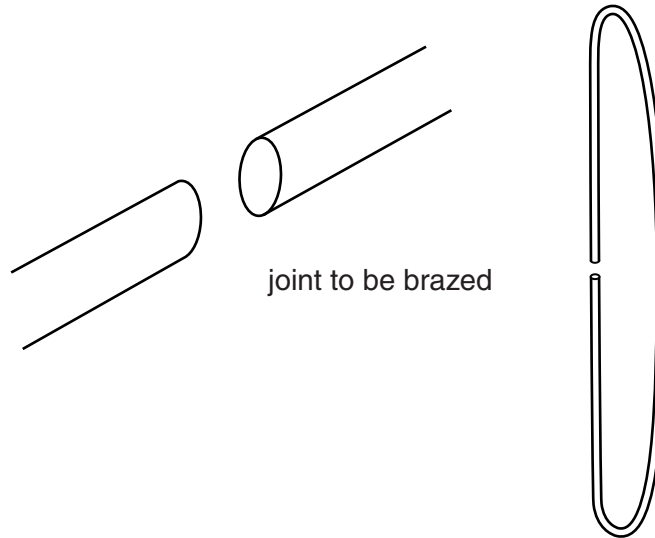

Fig. 12
- (c) Fig. 12 shows the two ends of a length of Ø8 mild steel rod. The mild steel rod has been bent to the shape of the end frame. The ends will be brazed together.